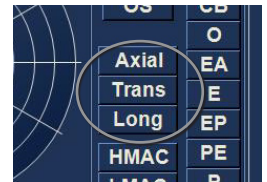

Figure 5.26 - Changing a View - Probe Position
2. Move to the "Edit Current View" area of the Exam Screen and select the correct probe position as shown in Figure 5.26.